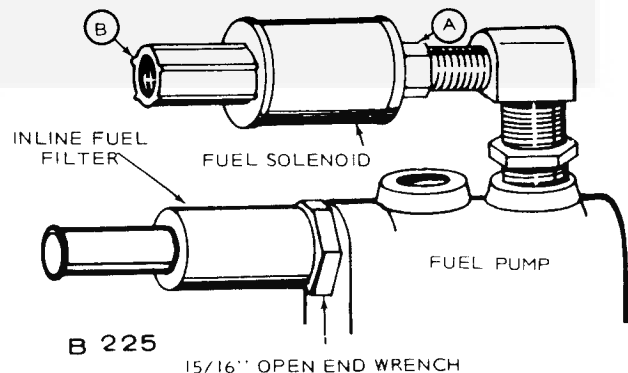

FIGURE 9. INLINE FUEL FILTER
When removing or replacing fuel solenoid always use wrench on hex (A), Figure 9. Do not exert turning force on B because solenoid will be damaged internally.